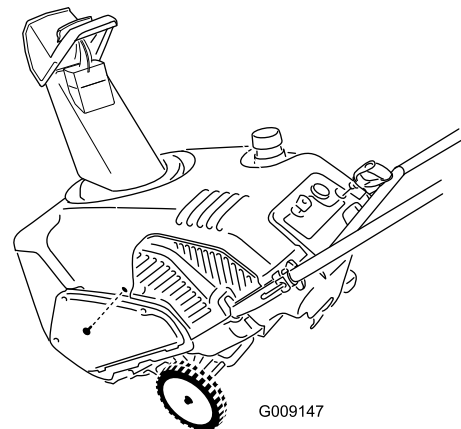

Figure 35
16. Secure the exhaust baffle using the small side screw that you previously removed (Figure 35).